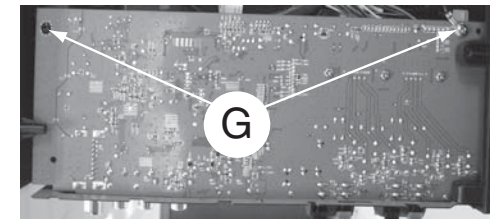

Figure 8
- 1) Loosen 2 screws "G" on the top of Main board as shown in figure 8.